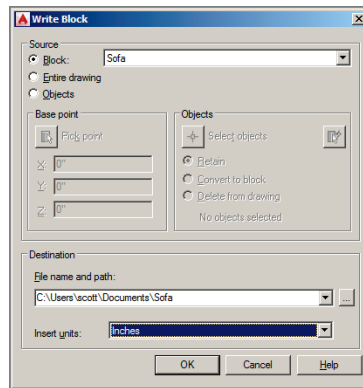

FIGURE 9.1 Writing a block to a file
1. Type **W** (for Write block), and press Enter. Select the Block radio button in the Source area of the Write Block dialog box. Select Sofa from the Block drop-down. Select Inches (or Centimeters for metric) from the Insert Units drop-down in the Destination area (see Figure 9.1). Click OK, and the geometry within the Sofa block definition is written to `Sofa.dwg`.